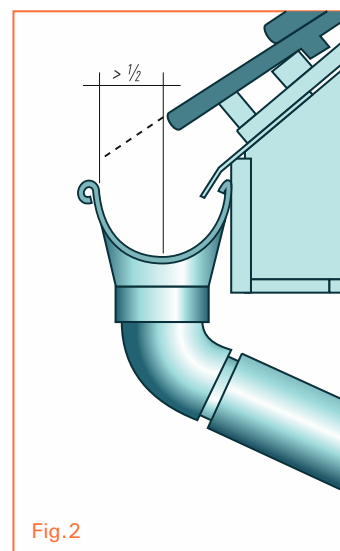

Fig.2
- Remember that the gutter should be mounted in such a way that they neither constitute support for sliding snow. The hood should not project more than half the diameter of the gutter and the gutter should be located below the surface of the roof extension (Fig. 2).